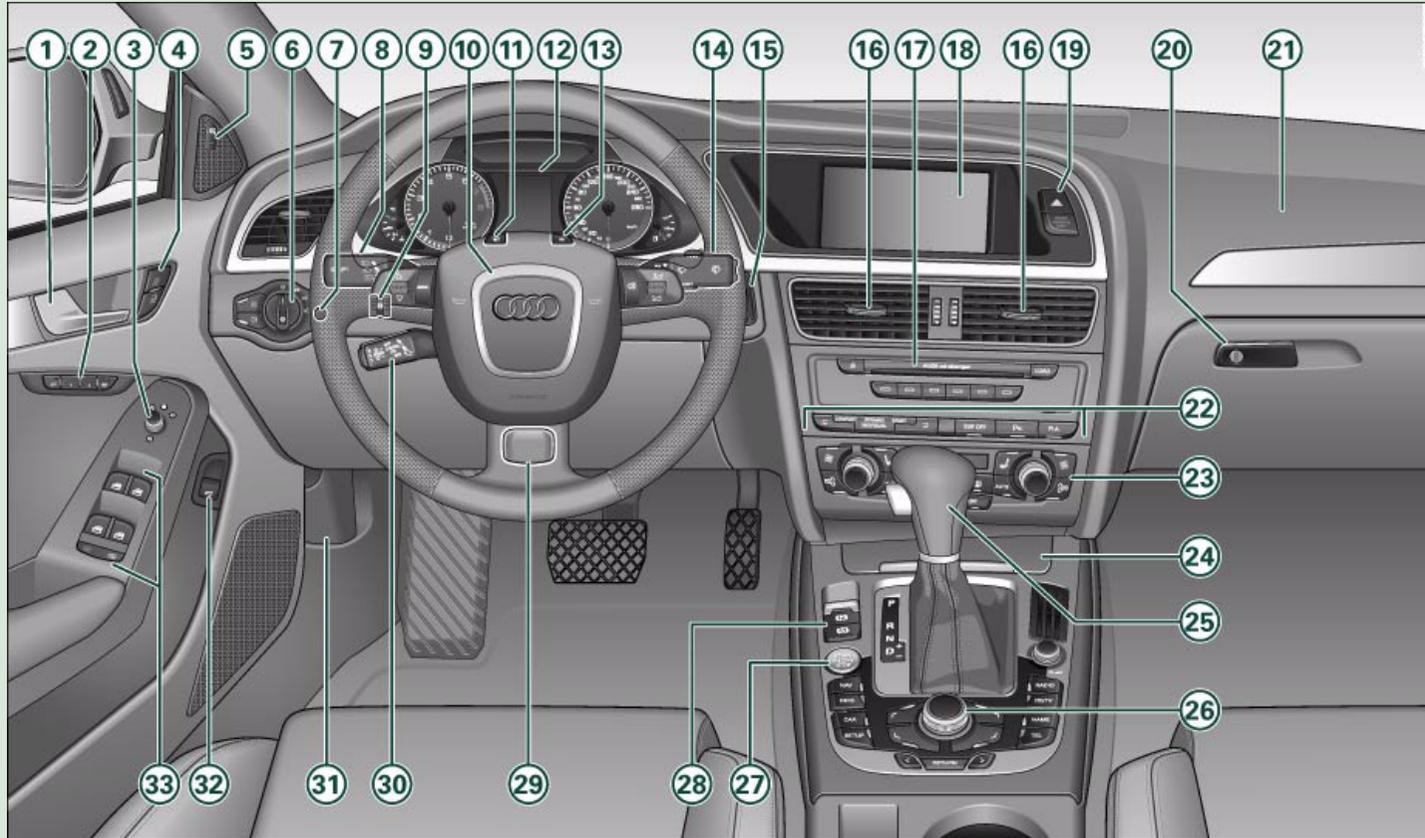

Fig. 1 Some of the items of equipment listed in this section are only fitted on certain models or are optional extras.
- The arrangement of switches and controls on right-hand drive models* may be slightly different from the layout shown in the illustration ⇒ page 8, fig. 1. However, the symbols used to identify the controls are the same. ■